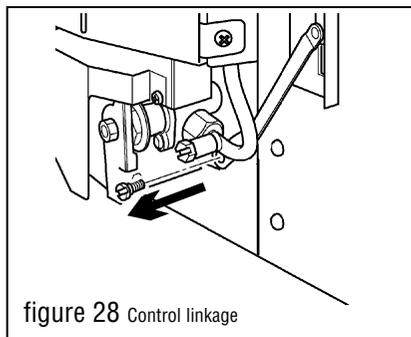

figure 28 Control linkage
10.4.3 Disconnect the control linkage by removing the knurled screw which connects the control linking bar to the control pivot unit (see figure 28).